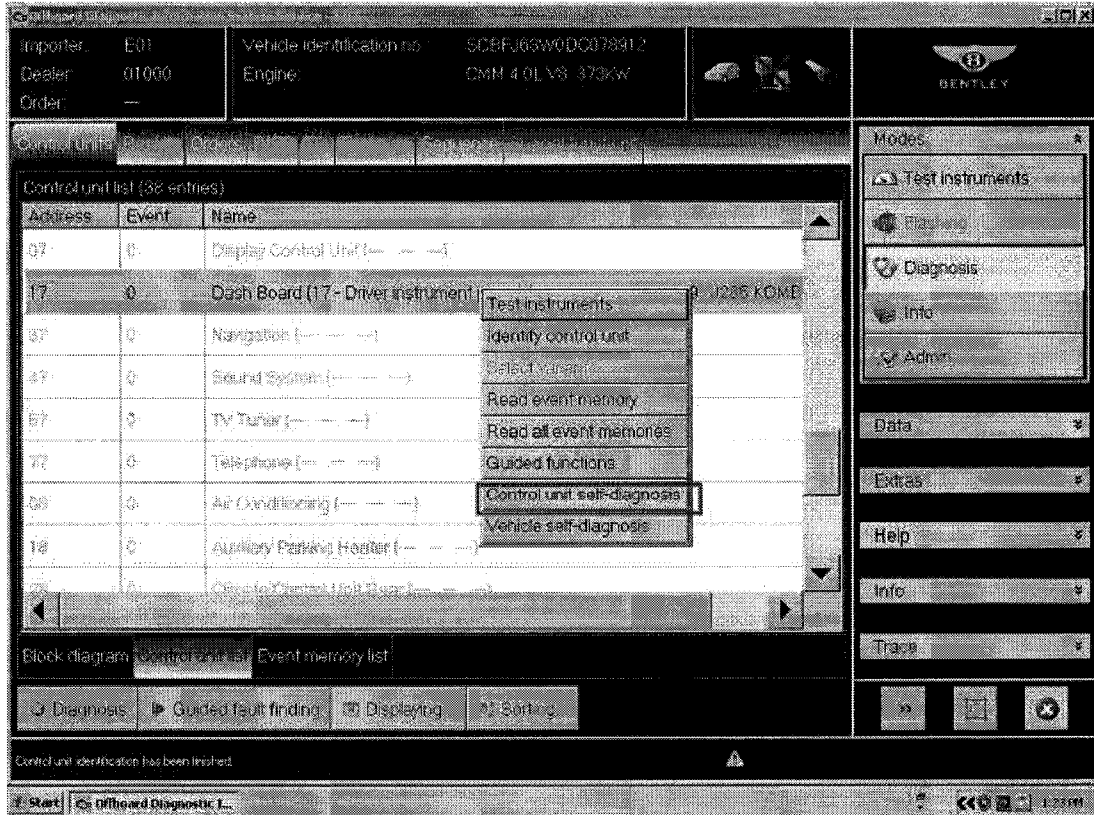

Figure 3
- Once the control unit is identified then repeat the drop down menu reveal (extended touch and release), and Select *Control unit self-diagnosis* (see Figure 3)